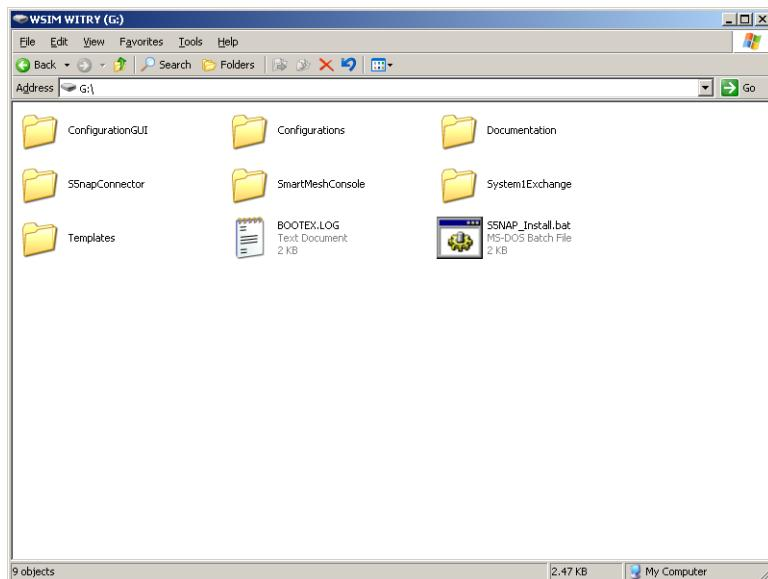

Figure 2-1: WSIM WITRY USB Drive
1. Open the WSIM WITRY Drive, see Figure 2-1.